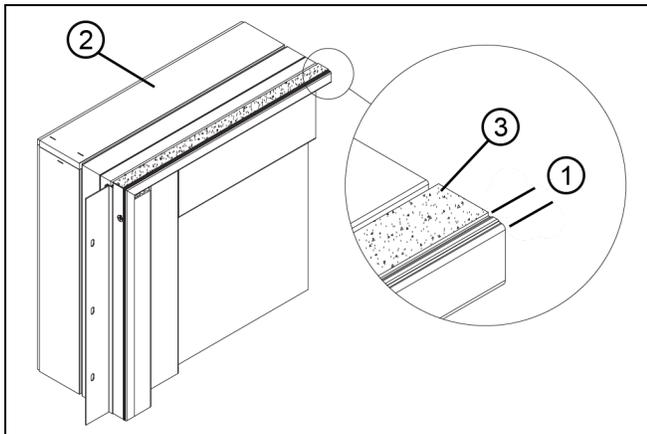

Figure 21
1. If applicable, remove nailing fin/drip cap from head jamb of door and sill of transom. Apply one sided mull sealant foam tape to the entire length of door head jamb ensuring it is located 1/4" (6) from the exterior edge of the Ultrex frame. See Figure 21.